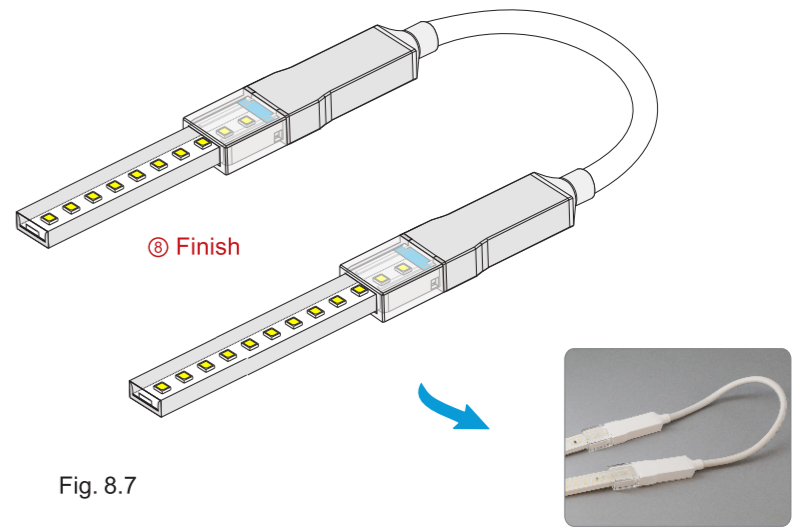

Fig. 8.7
- Fig. 8.7 — The complete assembly